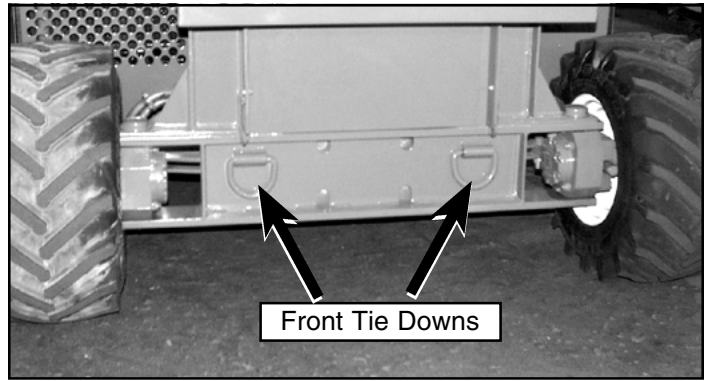

Figure 8: Transporting Work Platform
1. Secure straps to chassis tie down/lifting lugs only (Figures 8 & 9).
2. Secure the work platform to the transport vehicle with chains or straps of adequate load capacity attached to the chassis tie down/lifting lugs (Figures 8 & 9).